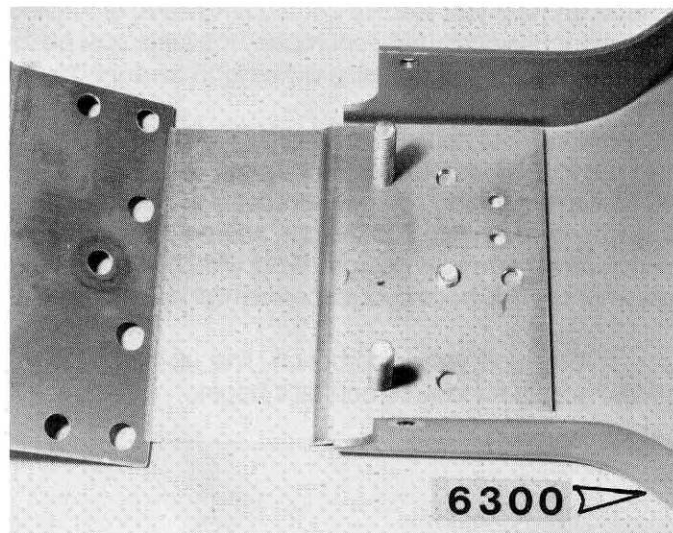

Fig. 2
□ **Fig. 2** Take the #6300 gold aluminum chassis and install the nose piece as shown, using the two 8/32 x 7/8" FHMS and the 8/32 x 1/4" FHMS. **NOTE:** All of the gold screws are aluminum and can be damaged by a worn screwdriver.